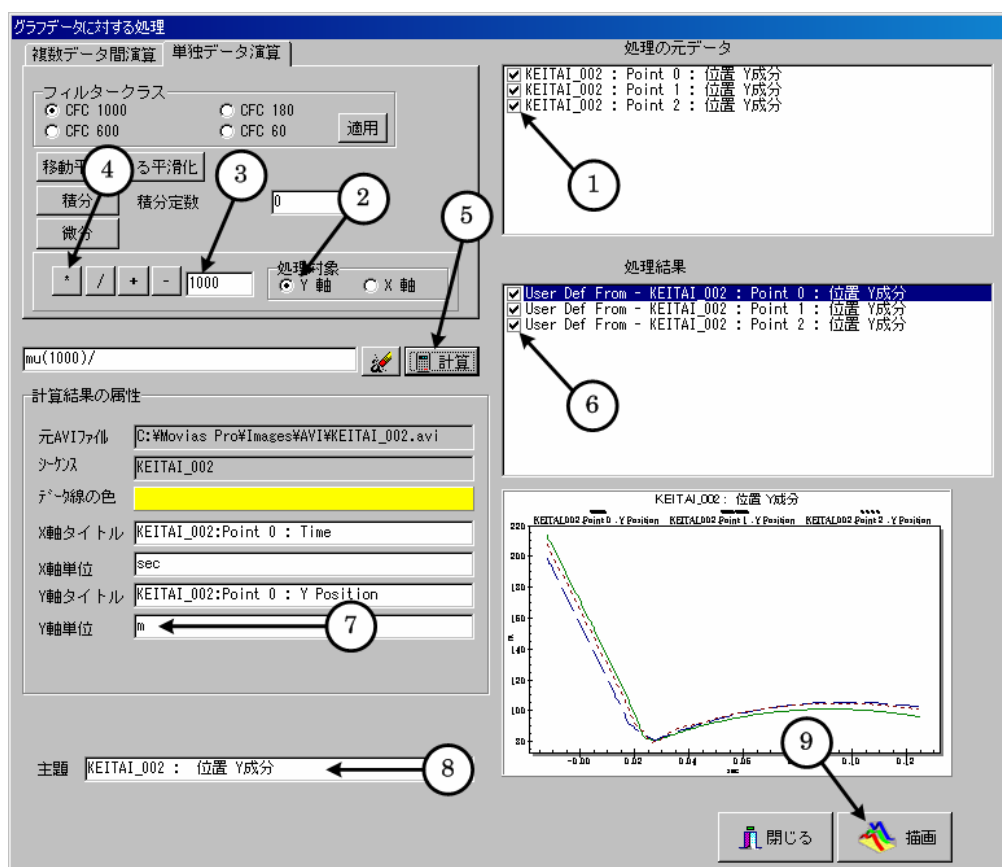

Figure 130 Arithmetic for Single Data Screen
- Select the “Arithmetic for Single Data” tab to display Figure 130. Follow this figure for a description of the process.